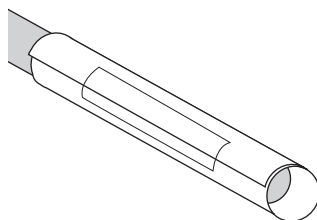

Figure 3: Post-it Note overhanging the dowel
3. Move the dowel so that the paper overhangs the dowel by almost 1/4 inch. (See Figure 3.)